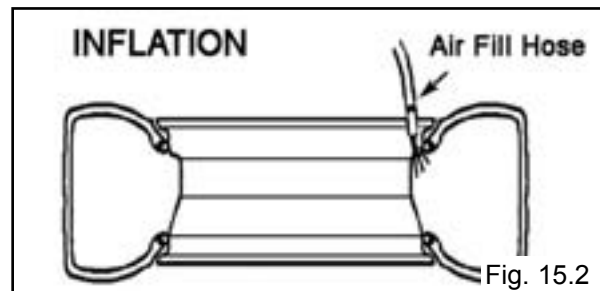

Fig. 15.2
**Tire Inflation** – With the Inflation Hose attached to the tire valve, pulling the trigger allows line pressure to flow through the valve and into the tire for inflation. (See Fig. 15.2)